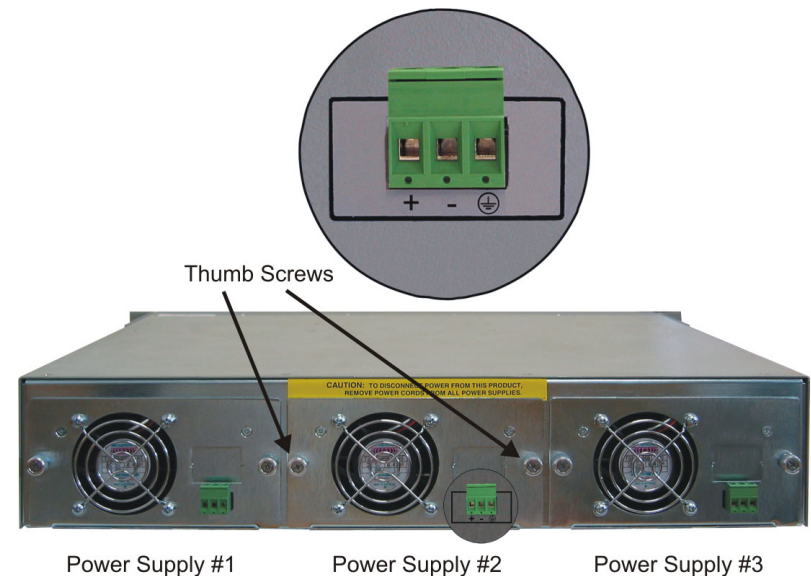

Fig 5. 19-Module Chassis with three Installed DC Power Supplies
- ❑ Using a screwdriver, loosen the 2 thumb screws securing the power supply to the main chassis (refer to Fig 5.).